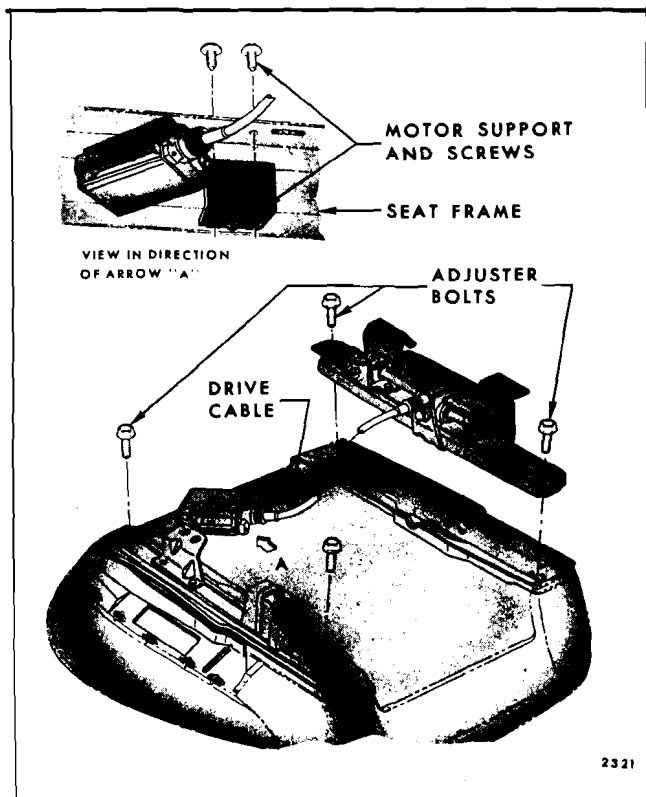

Fig. 15-44—Power Horizontal Bucket Seat Adjuster Removal
2. Disconnect power drive cable from adjuster gearnut (Fig. 15-44).
3. Remove adjuster-to-seat bottom frame front and rear attaching bolts (Fig. 15-44) and remove adjuster from seat assembly.